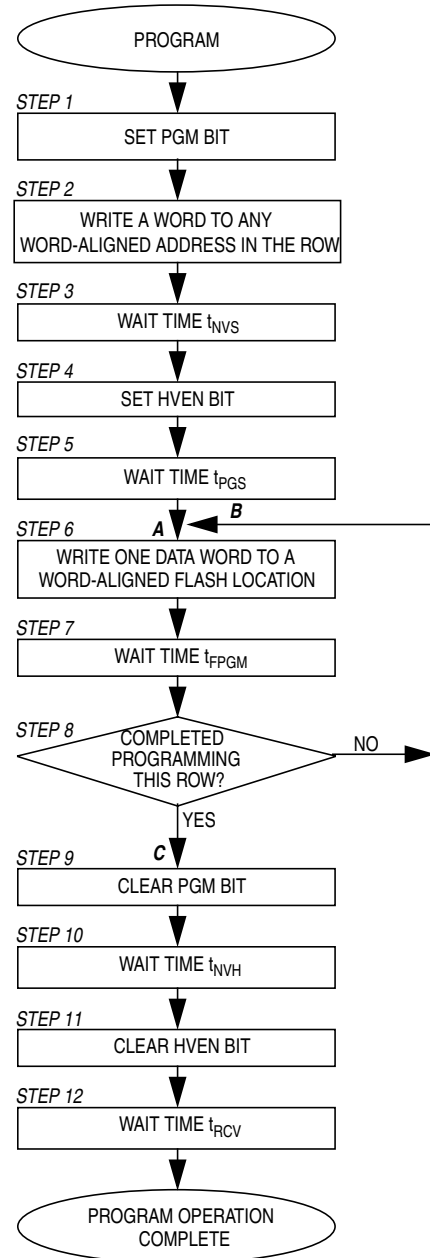

Figure 5. FLASH Program Operation Flowchart
Figure 5 shows the flowchart for the programming algorithm.
t_{FPGM} is the 1-word programming time. t_{FPGM} actually includes the total time from step 6 (A on the flowchart) back to step 6 (B on the flowchart) for additional word programming, or from step 6 (A) to step 9 (C on the flowchart) for the last word. This total time must be between 30 and 40 μ s in both cases. Refer to Figure 5.